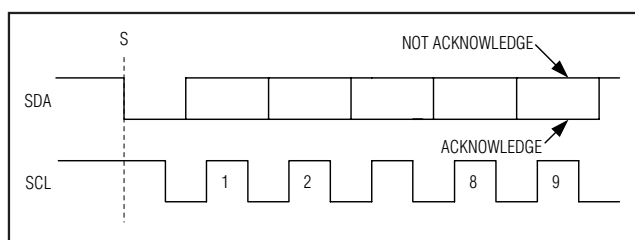

Figure 6. Acknowledge Bits
Successful data transfers are acknowledged with an acknowledge bit (A) or a not-acknowledge bit (\bar{A}). Both the master and the MAX11600–MAX11605 (slave) generate acknowledge bits. To generate an acknowledge bit, the receiving device must pull SDA low before the rising edge of the acknowledge-related clock pulse (ninth pulse) and keep it low during the high period of the clock pulse (Figure 6). To generate a not acknowledge bit, the receiver allows SDA to be pulled high before the rising edge of the acknowledge-related clock pulse and leaves it high during the high period of the clock pulse.